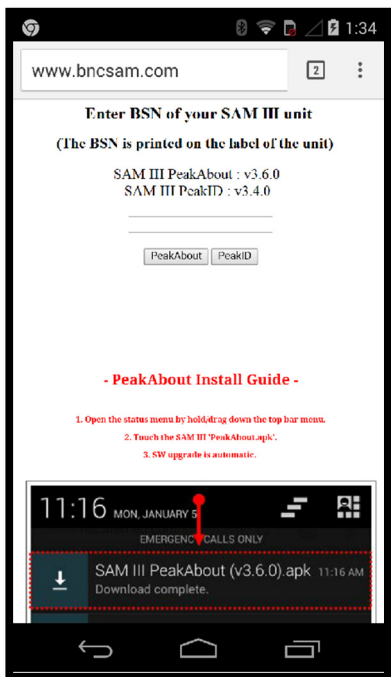

Figure 4.37. PeakAbout software upgrade, step 2
2. In the pop-up window (Figure 4.37), enter the BSN number from the label on the detector unit (Figure 2.1), then touch the **PeakAbout** button.